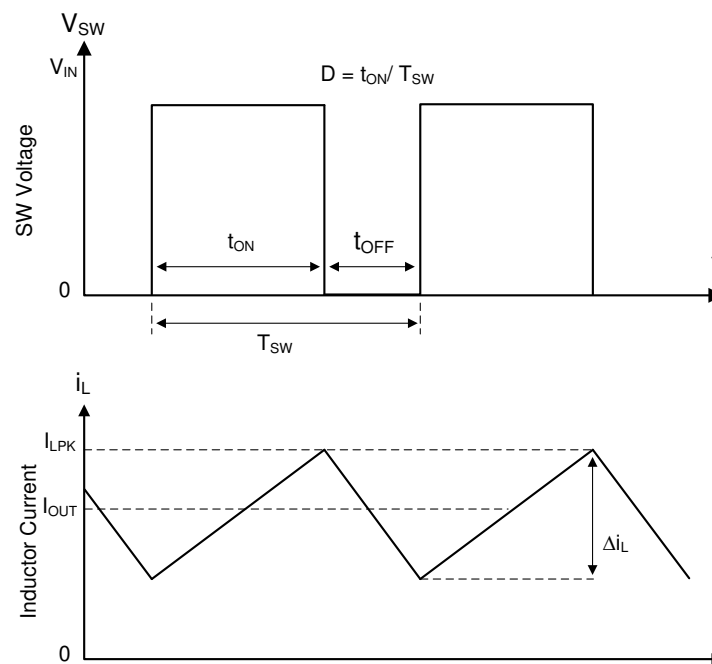

Figure 7-1. SW Node and Inductor Current Waveforms in Continuous Conduction Mode (CCM)
The following operating description of the LMR514x5 refers to Functional Block Diagram and to the waveforms in Figure 7-1. The LMR514x5 is a step-down synchronous buck converter with integrated high-side (HS) and low-side (LS) switches (synchronous rectifier). The LMR514x5 supplies a regulated output voltage by turning on the high-side and low-side NMOS switches with controlled duty cycle. During high-side switch ON time, the SW pin voltage swings up to approximately V_{IN} , and the inductor current, i_L , increases with linear slope $(V_{IN} - V_{OUT}) / L$. When the high-side switch is turned off by the control logic, the low-side switch is turned on after an anti-shoot-through dead time. Inductor current discharges through the low-side switch with a slope of $-V_{OUT} / L$. The control parameter of a buck converter is defined as Duty Cycle $D = t_{ON} / T_{SW}$, where t_{ON} is the high-side switch ON time and T_{SW} is the switching period. The converter control loop maintains a constant output voltage by adjusting the duty cycle D . In an ideal buck converter, where losses are ignored, D is proportional to the output voltage and inversely proportional to the input voltage: $D = V_{OUT} / V_{IN}$.